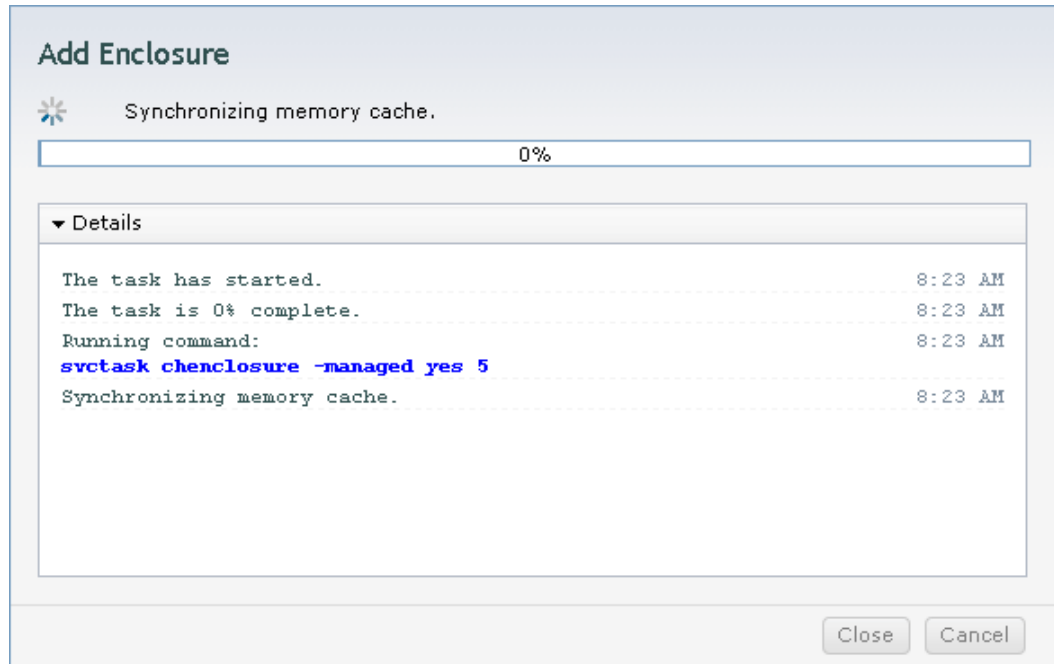

Figure 2-25 Managing new enclosure
- The background "Add Enclosure" to manage new enclosure will display the screen shown in Figure 2-25 on page 50.